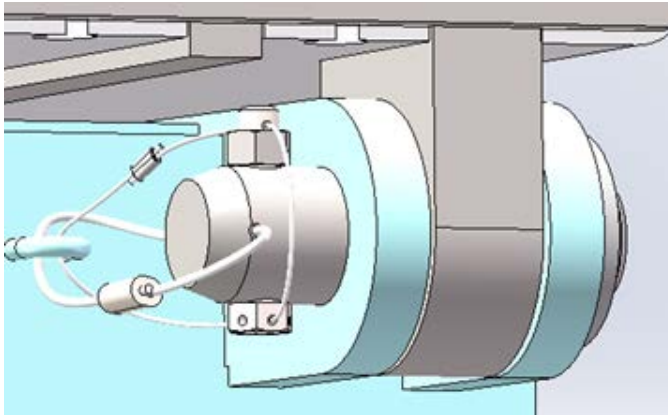

Figure 1: Torque guide pins
1. Wire the pins connecting each section of the track (Figure 1).